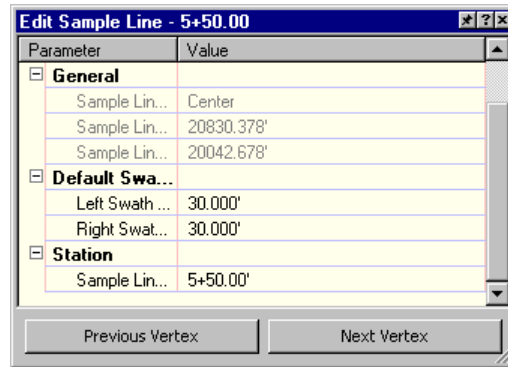

Figure 9-10 The *Edit Sample Line* dialog box
**Line** dialog box will be displayed. Note that this dialog box is empty. Now, select the required sample line from the drawing; the dialog box will be populated with the parameters and values of the selected sample line, as shown in Figure 9-10.